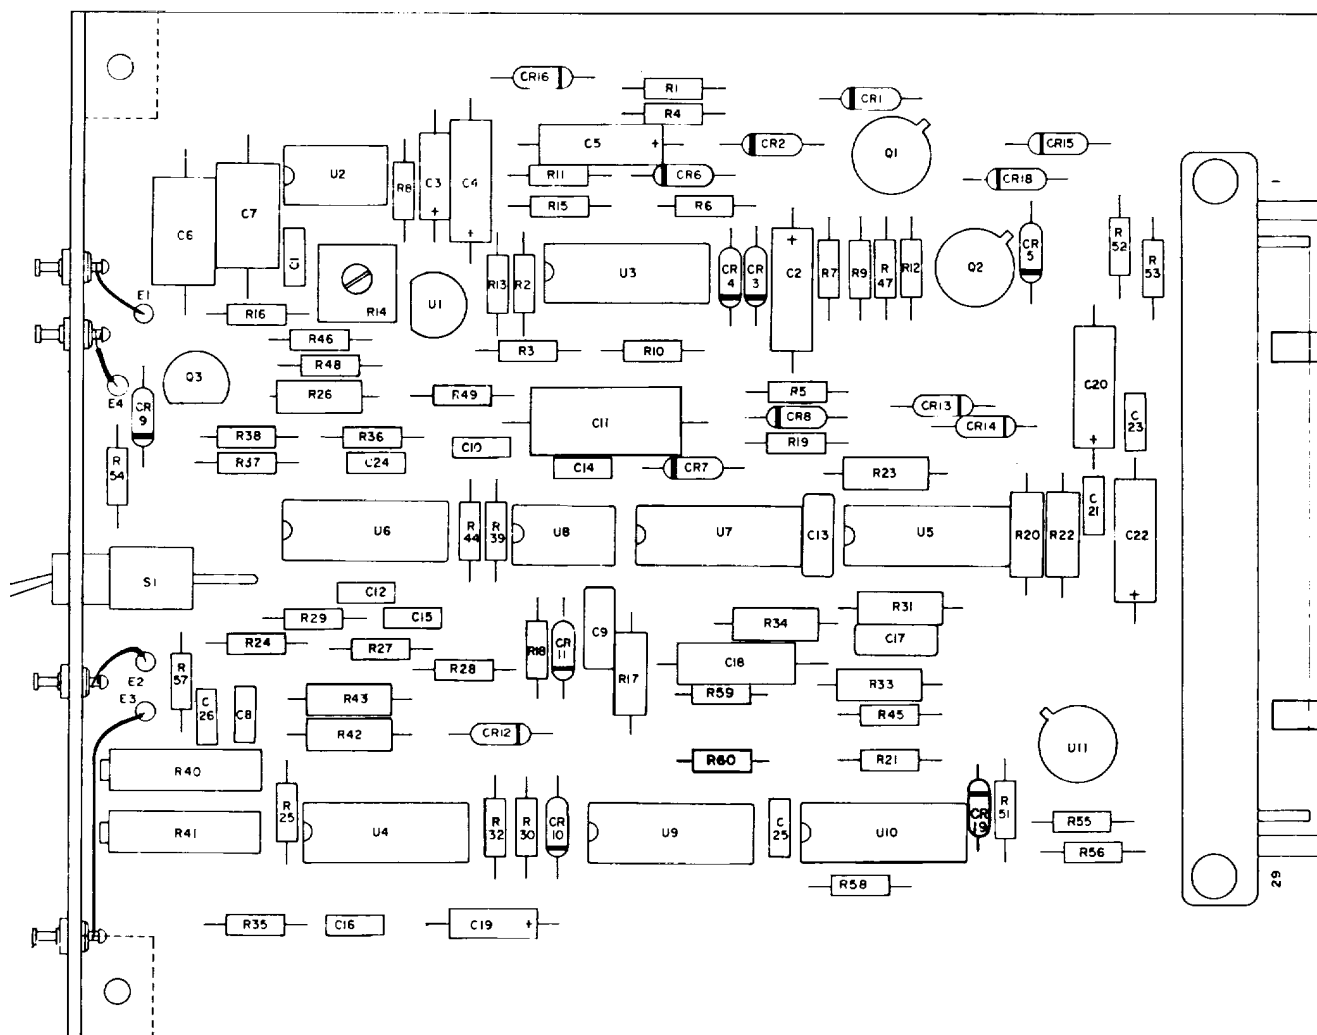

Figure 5-5. Reference Ident Circuit Card Assembly, 1A3A4 Parts Location Diagram
e. Reference Ident Circuit Card Assembly (1A3A4) Disassembly. This circuit card assembly should be removed only when servicing or component replacement is required. To remove this circuit card assembly, grasp both edges of the card and pull up. Further disassembly should be limited to removal of parts for repair or replacement. Refer to figure 5-5 for location of component to be replaced.